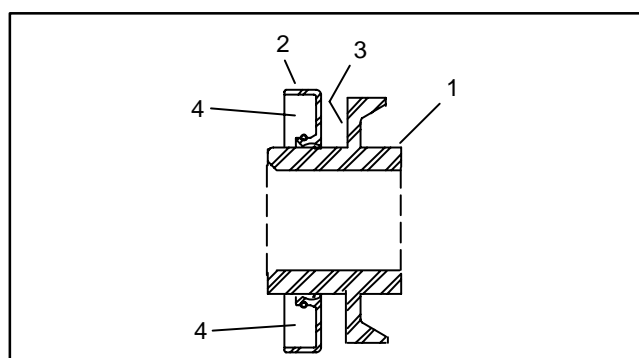

Figure 26
C. Apply a coating of grease to bearing lock nut shoulder surface to prevent seal damage during seal installation (Fig. 26).
D. Carefully install seals onto bearing lock nuts. Pack the back of the seal 75 to 90% full with #2 grease (Fig. 26).
D. Carefully install seal onto each of the tools. Pack the back of the seal 75 to 90% full with #2 grease (Fig. 26).